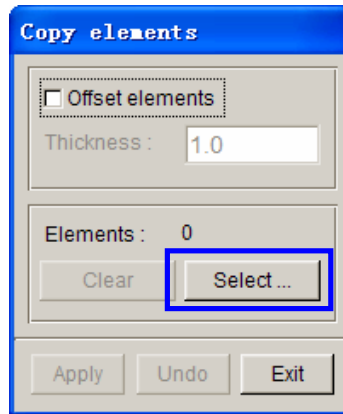

Figure 79: Copy elements dialog box
12. The **Copy Elements** dialog box illustrated in Figure 79 is displayed. Then, click **Select...** button to display the **Select Elements** dialog box.